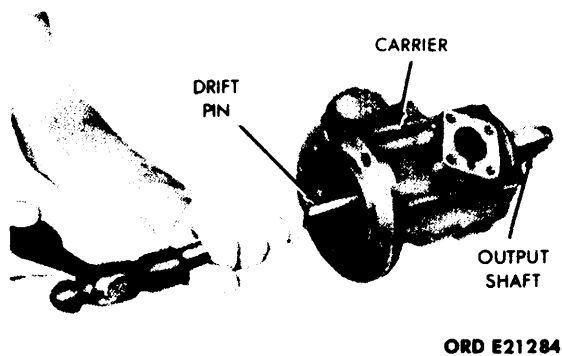

Figure 5-33. Removal of Output Shaft, Both Bearings, and Rear Tapered Roller Bearing Cup.
d. *Output Shaft.* Use a soft drift pin and hammer to drive the output shaft and both bearings from the carrier. (See fig. 5-33.) Removal of the output shaft will also remove the rear tapered roller bearing cup.
- c. Output shaft. (See fig. 5-33.)